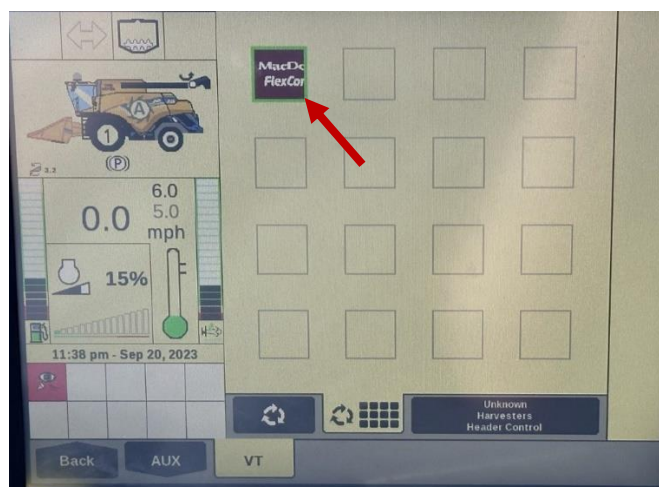

Figure 7.12: Case and New Holland VT Page
3. Select the MacDon FlexCorn icon  shown in Figure 7.12